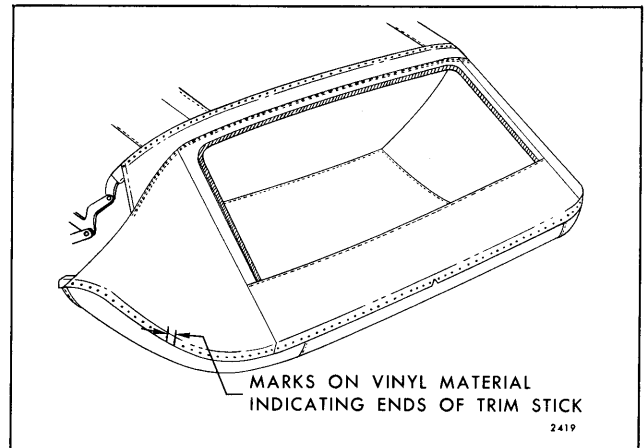

Fig. 13-11—Marking Back Curtain
27. Using chalk, or other suitable material, mark ends of rear quarter trim sticks on vinyl surface of back curtain material (Fig. 13-11). Reference marks from trim sticks should be transferred to new back curtain material when step 6 of installation procedure is performed.